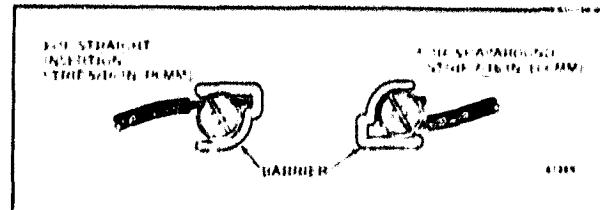

FIG. 5-BARRIER CONFIGURATION.
4. Run wires as close to the subbase as possible. To prevent interference with the thermostat linkage, keep wire length to a minimum, and make certain wires do NOT protrude outward beyond standoffs (Fig. 5). Push excess wire back into the hole, and plug hole to prevent drafts from affecting thermostat operation.
The shape of the terminal barrier permits insertion of straight or conventional wrap around (Fig. 5) wiring connections. Either method is acceptable. When making connections, strip wire to the length specified in Fig. 5.